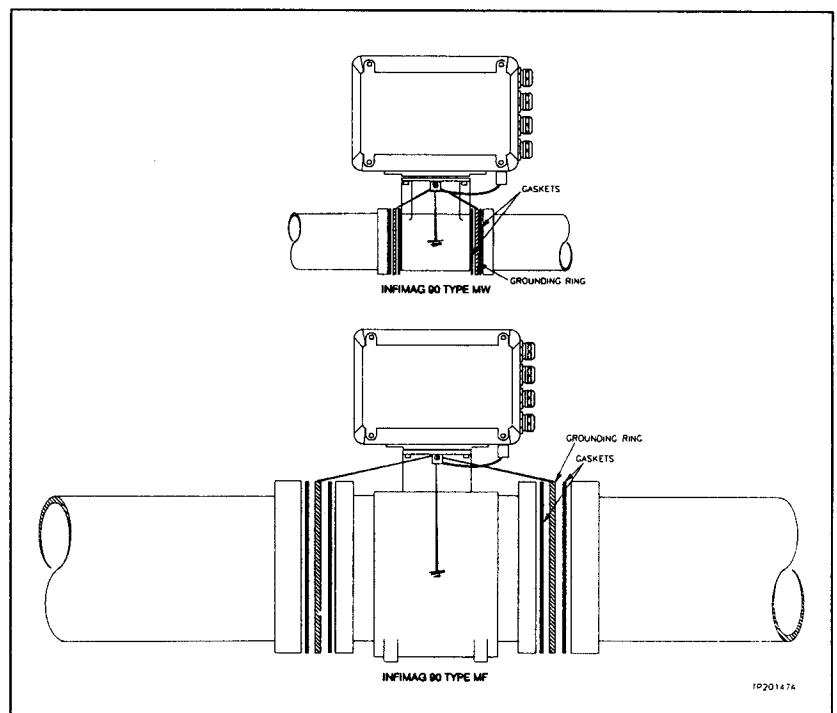

Figure 3-14. Grounding to a Pipe Made of Nonconducting Material or Insulated from the Fluid
1. Install two grounding rings upstream and downstream of the flowmeter. The grounding rings are available as a nomenclature option, or refer to Tables 8-4 and 8-5 in the support services section of this manual for part numbers. The gaskets shown in Figure 3-14 are not included.
2. Connect the grounding rings to the external ground terminal of the flowmeter using two wires or cables with a maximum wire gage of 14 AWG (see Figure 3-14).